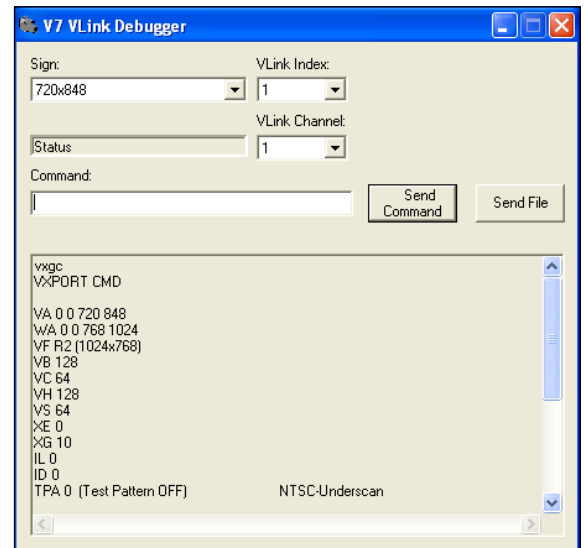

Figure 46: Configuration Settings
2. Type **VXGC** into the V7 V-Link Debugger program to view the current configuration settings. Refer to **Figure 46**.
In the example in **Figure 46** the viewable area (VXVA) is set to preview a display that is 720x848 pixels. If the display is an HD display, the width of the VXVA must be half of the configured sign width. The window area (VXWA) is set for the output video to start at 0 pixels from the top of the output signal and 0 pixels from the left with a size of 768x1024 pixels. The video format (VXVF) is set to XGA. Refer to **Section 9.8** for a list of VIP-4510 video formats.